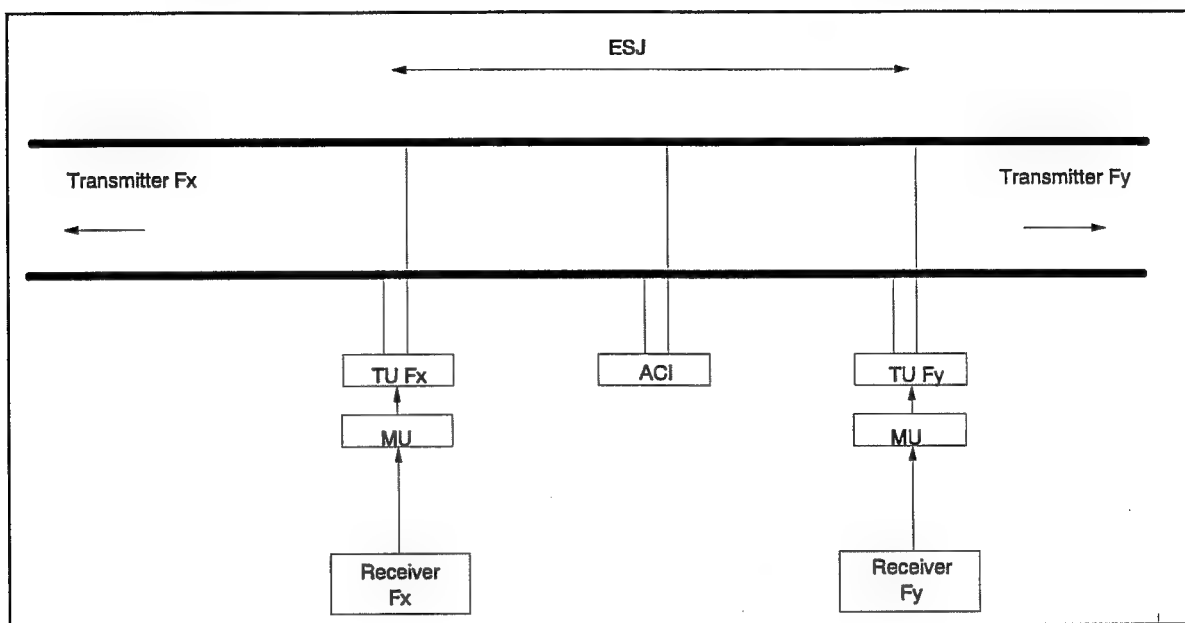

Figure 7 - config. receiver/receiver
- Two receivers (fig.7), as generally found on intermediate transmission track circuits.